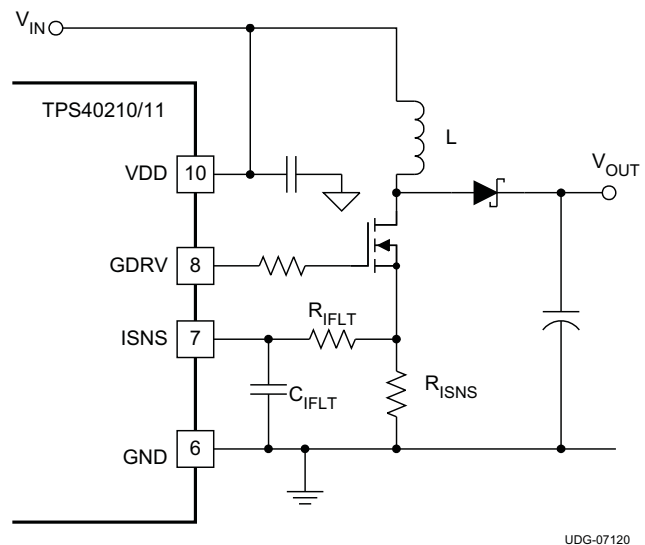

Figure 23. Current Sense Components
- V_D is the drop across the diode in Figure 23
- V_D is the drop across the diode in Figure 23 (10)
It is possible to increase the voltage compensation ramp slope by connecting the VDD pin to the output voltage of the converter instead of the input voltage as shown in Figure 23. This can help in situations where the converter design calls for a large ripple current value in relation to the desired output current limit setting.
In most cases, a small filter placed on the ISNS pin improves performance of the converter. These are the components R_{IFLT} and C_{IFLT} in Figure 23. The time constant of this filter should be approximately 10% of the nominal pulse width of the converter. The pulse width can be found using Equation 11.